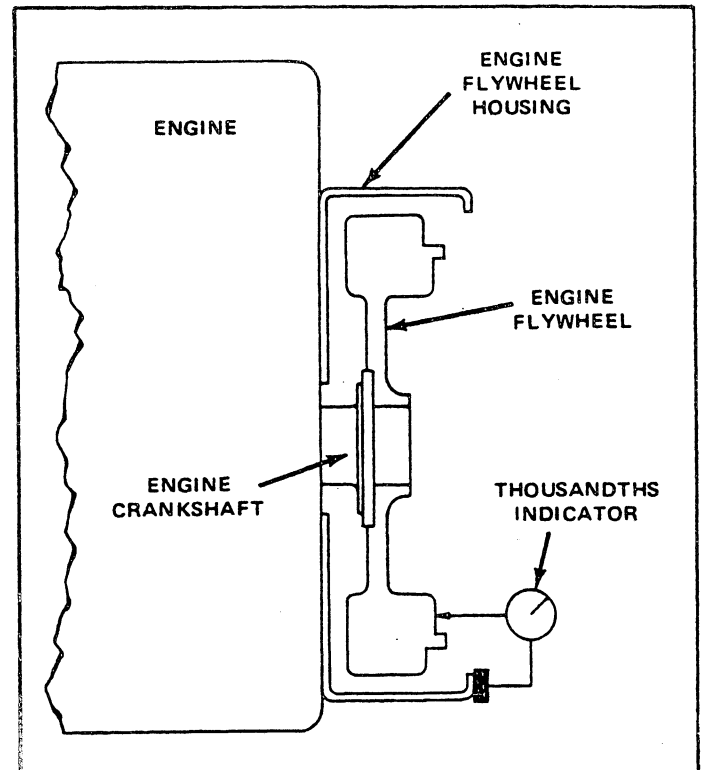

Figure 9-13. Checking the driving ring surface of engine flywheel.
5. Bolt a thousandths dial indicator or gauge to the engine flywheel housing so that the indicator is perpendicular to the engine flywheel, and the indicator stem is riding on the inner face of the flywheel. See figure 9-13. Rotate the flywheel. The variation of the face runout of the surface to which the driving is bolted should not exceed 0.0005 per inch of diameter.